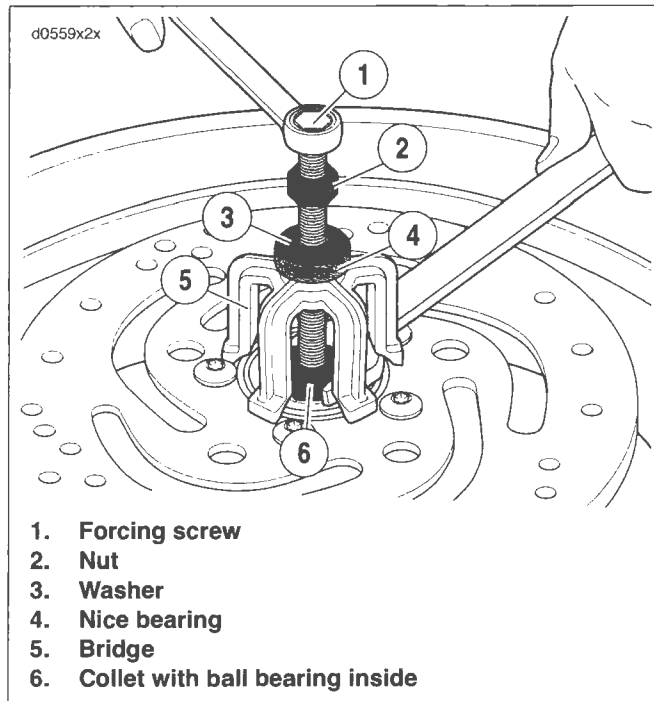
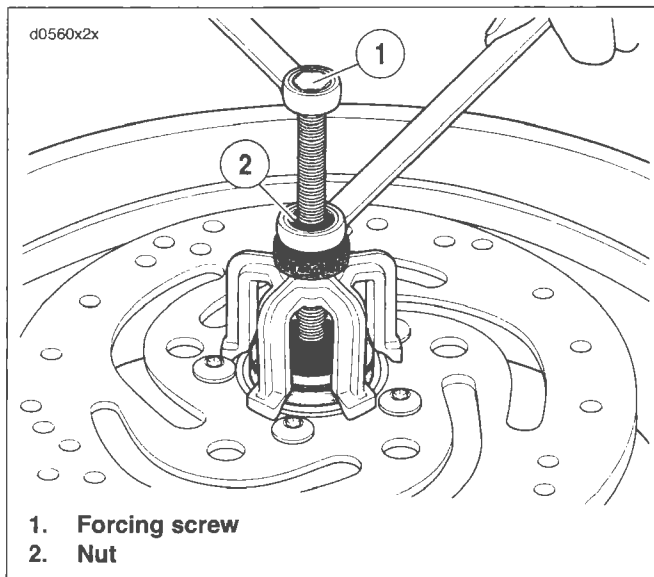

Figure 2-15. Removal Tool
Figure 2-16. Remove Bearing
2. See Figure 2-15. Obtain WHEEL BEARING INSTALLER/REMOVER (Part No. HD-44060A) and assemble.
- a. Sparingly apply graphite lubricant to threads of forcing screw (1) to prolong service life and ensure smooth operation.
- b. Install nut (2), washer (3) and Nice bearing (4) on screw. Insert assembly through hole in bridge (5).
- c. Drop ball bearing inside collet (6). Fasten collet and ball bearing to forcing screw (1).
3. Hold end of forcing screw (1) and turn collet (6) to expand edges of collet.
4. See Figure 2-16. When expanded collet has gripped bearing edges, hold end of forcing screw (1) and turn the nut (2) to remove bearing from wheel.